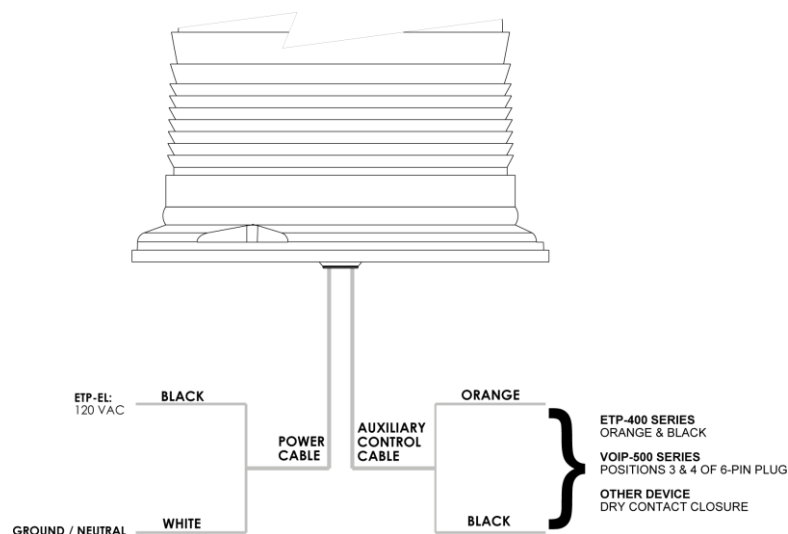
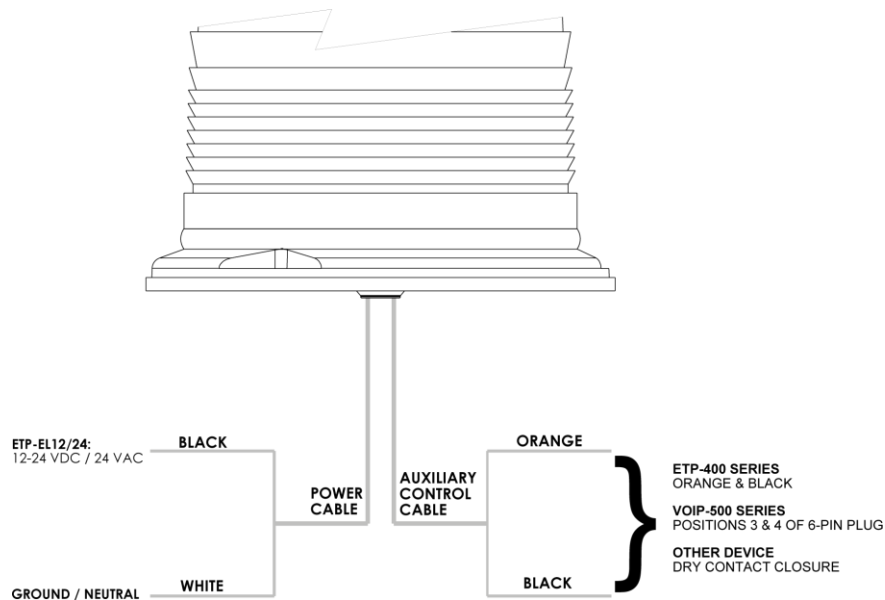

Figure 2: Electrical connections to the ETP-EL LED Blue Light
Figure 3: Electrical connections to the ETP-EL12/24 LED Blue Light
5. Wire incoming power to the LED Blue Light and to the LED Panel Light. The LED Panel Light operates on 12VDC up to 120VAC and is not polarity sensitive. The high voltage LED Blue Light operates only on 120VAC. The low voltage LED Blue Light, if used, operates on 12/24VDC or 24VAC only. Please refer to the wiring instructions as shown in **Figure 2** and **Figure 3**.